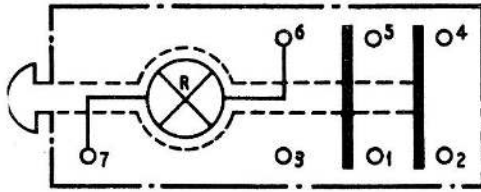

Fig. 3. Circuit diagram
4. A lamp fitted inside the switch makes contact with terminals 6 and 7, the centre contact via a spring-loaded contact assembly to terminal 7. When the operating knob is depressed (*fig. 3*), the moving contacts bridge